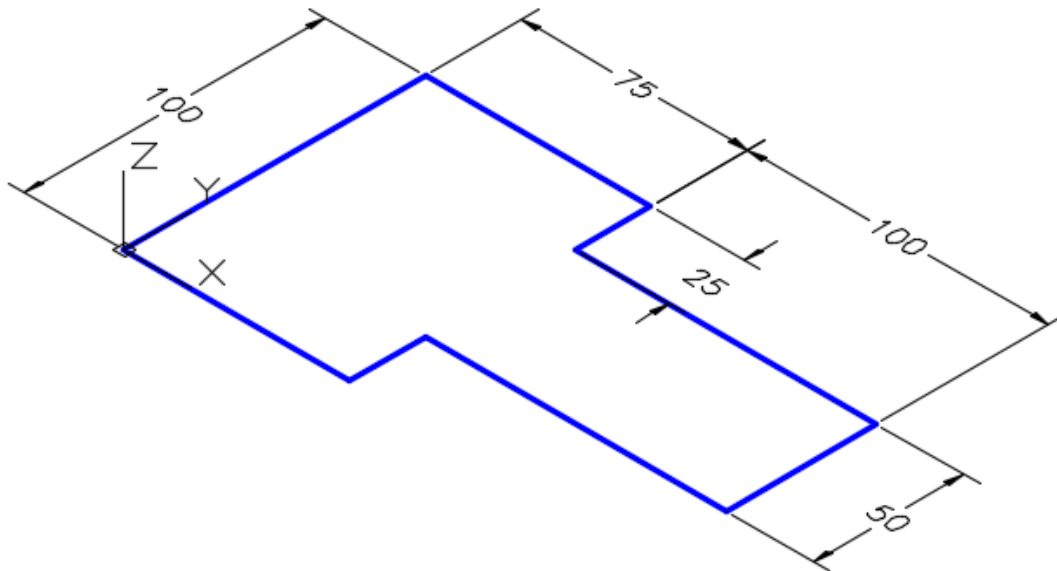
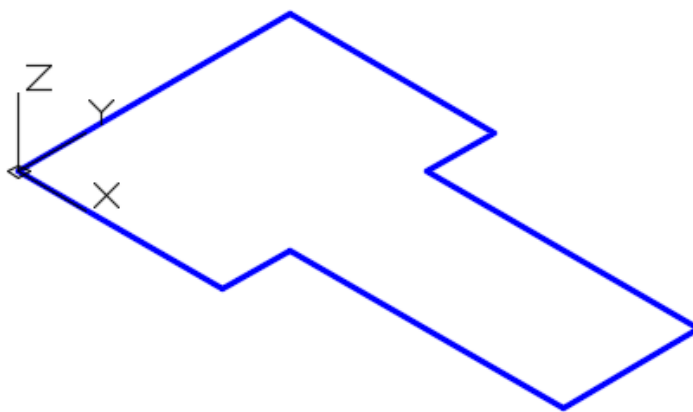

Figure Step 2
Figure Step 4
Step 2 Save and name the drawing: AutoCAD 3D Workalong 22-2. (Figure Step 2)
Step 4 Using Figure Step 2 as a reference, draw a closed pline as shown in the figure. (Figure Step 4)